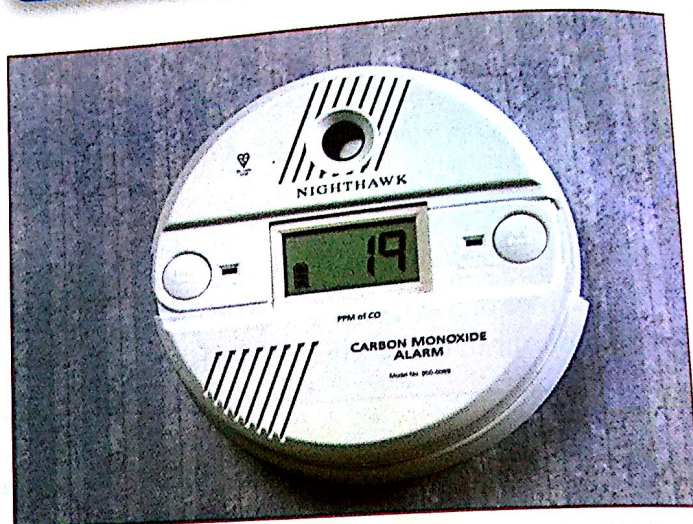

Figure 10.11 An electronic carbon monoxide detector.
Carbon monoxide (CO) is toxic because it interferes with the transport of oxygen around our bodies by our red blood cells. Every year a number of people die accidentally from carbon monoxide poisoning because of poorly serviced gas fires in their homes. If the flues to the fire are blocked, insufficient air is supplied to the fire and carbon monoxide is produced. Simple carbon monoxide detectors can be bought in supermarkets, or electronic detectors fitted in homes (Figure 10.11).